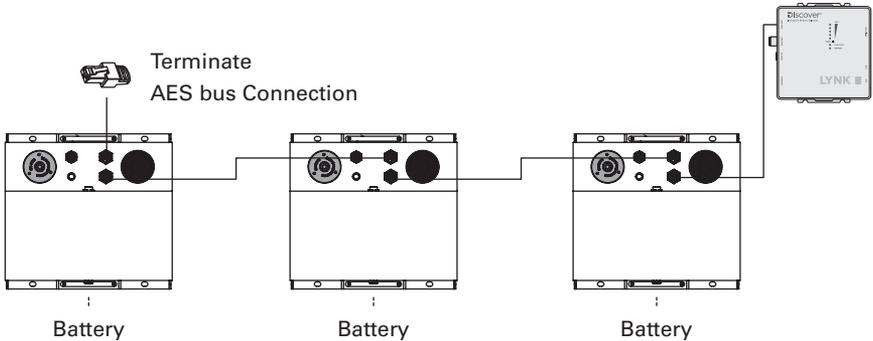

Figure 13. LYNK Network Installation and layout for AES 3K models.
2. Attach the 950-0038 DLPT Connector to the LYNK Port on each battery (Figure 13). Ensure that the mating connectors are securely fastened.